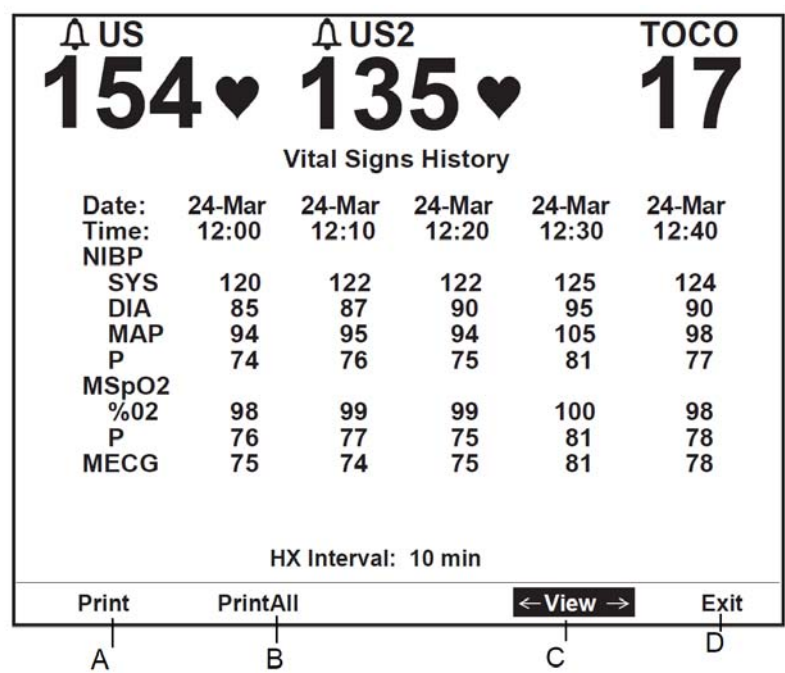

Figure 1-5 Maternal Vital Signs History Screen Softkeys
- D. VSHX Softkey:** Displays maternal *Vital Signs History* screen (See Figure 1-5).